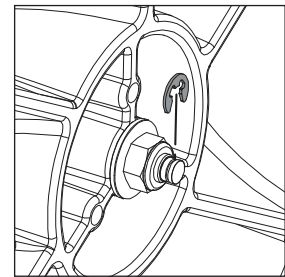

FIGURE 9.6
4. Reinstall the 8mm E-clip onto the flywheel shaft. (Figure 9.6)